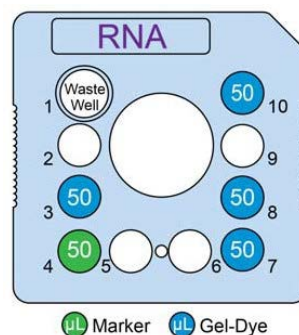
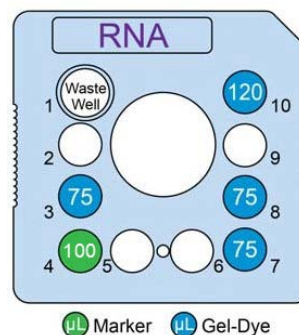

Figure 1. Low-throughput (LT) chip preparation
Figure 2. High-throughput (HT) chip preparation
3. Using a Reverse Pipetting Technique, add gel-dye solution to chip wells 3, 7, 8, and 10 as shown in **Figure 1 for LT** or as shown in **Figure 2 for HT**.
4. Add **50 µL (LT)** or **100 µL (HT)** RNA Marker  to chip well 4 as shown in **Figure 1** and **Figure 2**, respectively.